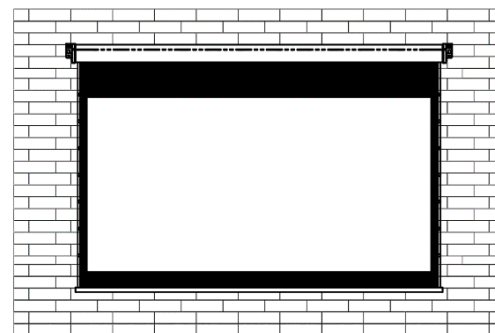

Fig.3
3. After hanging the screen on to the affixed screws, use the provided bubble leveler to ensure for a levelled installation (see Fig. 3).